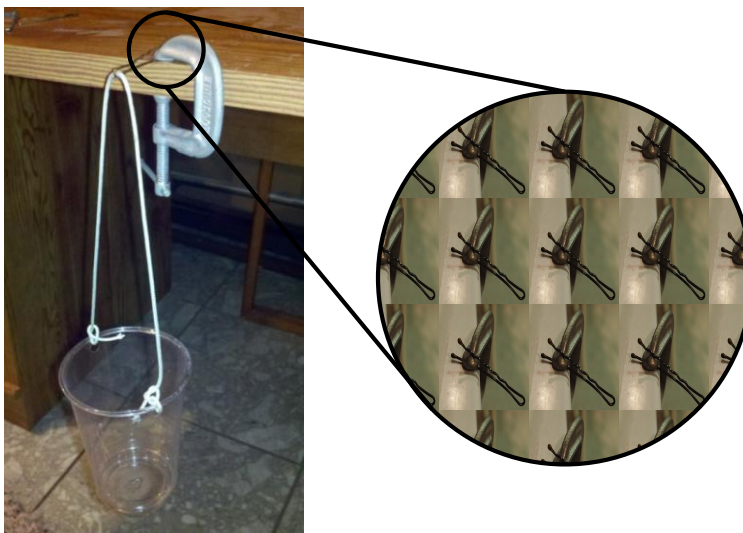

Figure 3. Test set-up
8. Set up the control bobby pin as shown in Figure 3. Be sure that the cup and string are hanging from the end of the bobby pin.
22. Set up the annealed bobby pin as shown in Figure 3.
29. Set up the quenched bobby pin as shown in Figure 3.